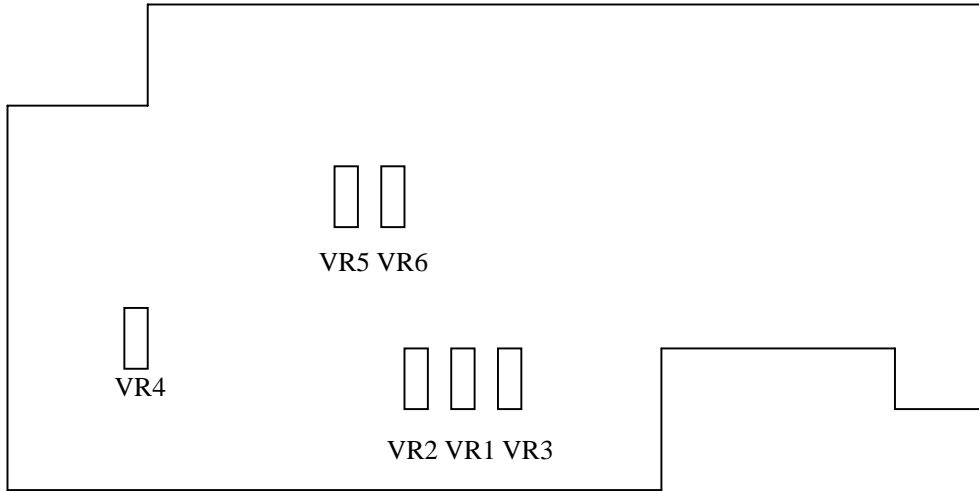

Figure 2.
② The PCB of e-load is shown as Figure 2. Set the output of the Fluke 341 to 35V, adjust VR2 on the board until the voltage value displayed on the Eload is $35.00V \pm 0.02\%$
③ Set the output of the Fluke 341 to 3.5V, adjust VR1 on the board until the voltage value displayed